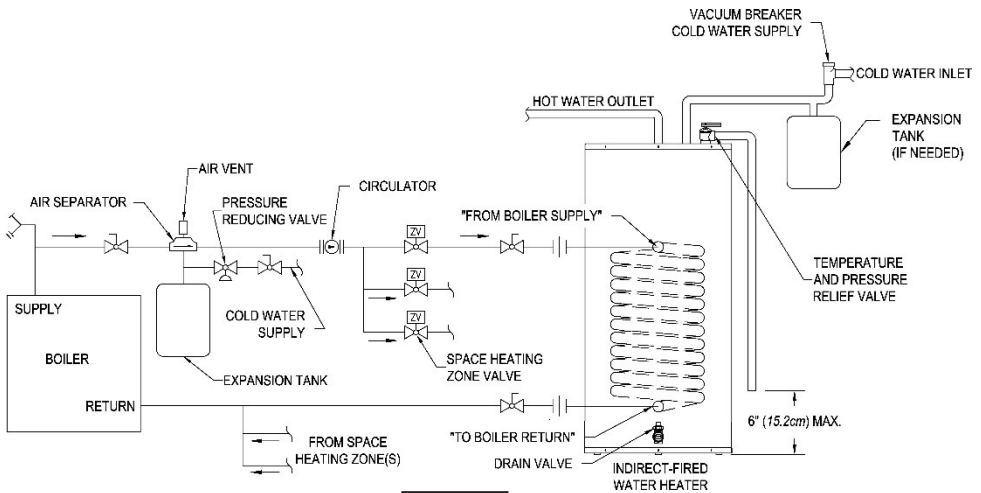

Fig. 3
1. For a space heating system that utilizes ZONE VALVES, refer to Figure 3. The indirect-fired water heater connection labeled “FROM BOILER SUPPLY” should be piped to the boiler supply piping. Mount the circulator making sure the flow arrow points toward the water heater. The use of shut-off valves and unions are recommended for future service convenience. The use of an air separator and vent is recommended to eliminate air in the system. Pipe and fittings between the boiler and indirect-fired water heater must be $\frac{3}{4}$ " diameter or larger.